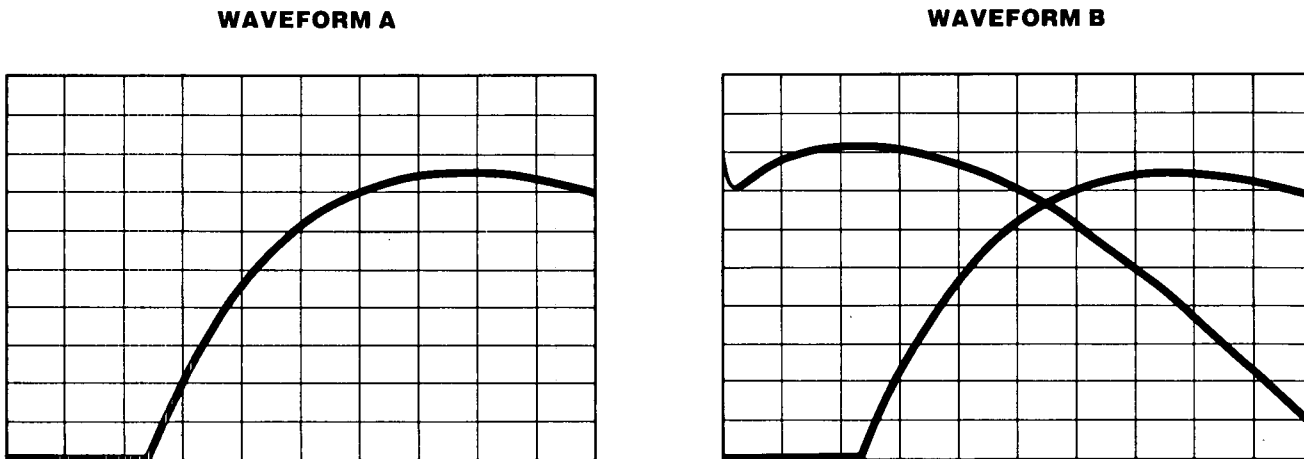

Figure 5-25. Spectrum Analyzer Waveforms of YO Loop Gain
26. A trace similar to Figure 5-25, Waveform A should be displayed on the spectrum analyzer.
27. On the spectrum analyzer, press **[STORE A → B]** to store the trace from A into trace B. On the Special Test Fixture, set switch S1 to position 2. The spectrum analyzer should display the two traces similar to Figure 5-25, Waveform B.